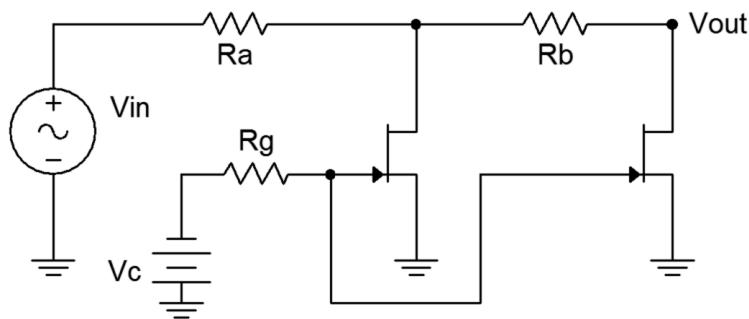

Figure 2
5. Build the circuit of Figure 2 with $R_a = R_b = 4.7 \text{ k}\Omega$ and $R_g = 10 \text{ k}\Omega$. Set V_{in} to 100 mV peak at 1 kHz. Set the control voltage, V_c , to 0 VDC. Measure the signal at V_{out} using the oscilloscope and record the value in Table 2.